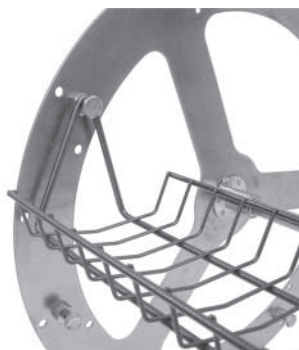

Fig. 28
1. Hang the left end of a Rack or Basket on a stud on the left side of the rotor (Fig. 28).